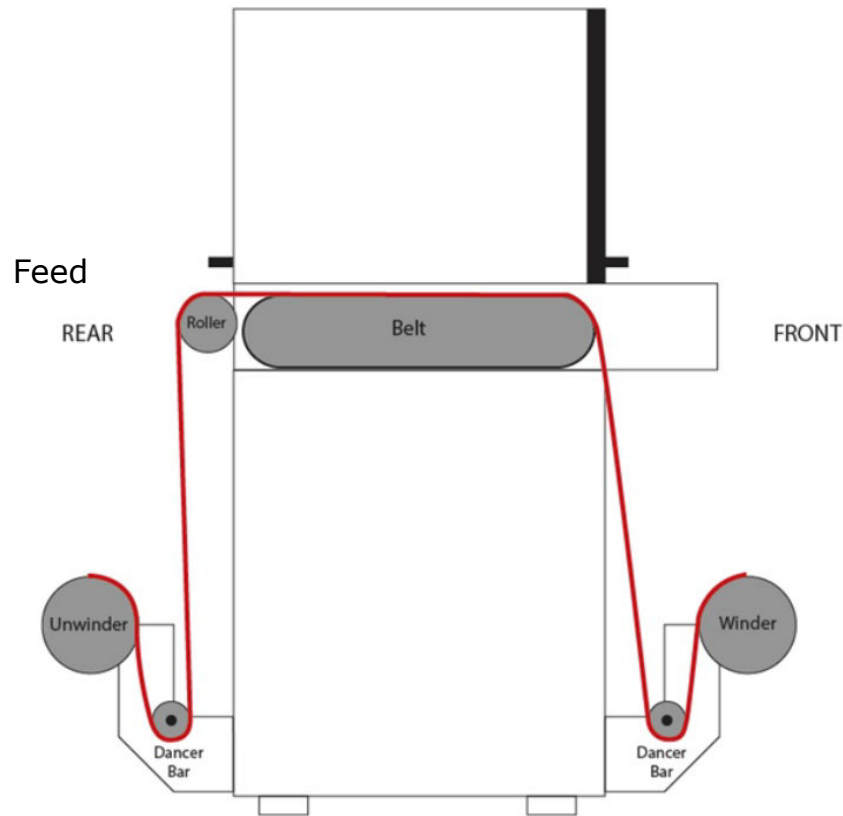

Figure 5-7: Image Surface on Outside of Media Roll
1. If the Image surface of the media is on the outside of the roll, load as shown in Figure 5-7.